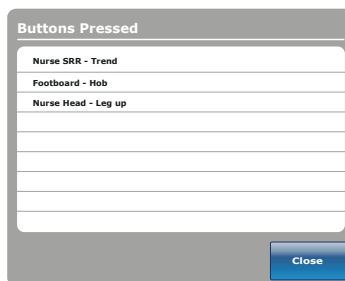

Figure 27e: Pressed Buttons
- BUTTONS PRESSED** (Figure 27e)